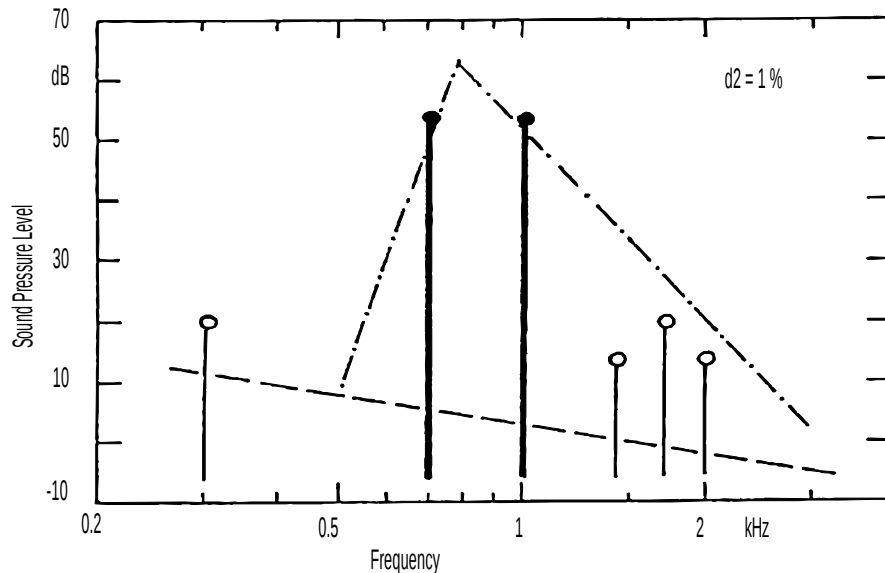

Fig.: 3-20
- different frequency components are more disturbing and more easily audible than harmonic distortion products, because they are nonharmonic and more often above the masking threshold of the human ear (see figure 3-20, the difference frequency is audible, the sum frequency and the second harmonic distortion products are masked by the human ear)